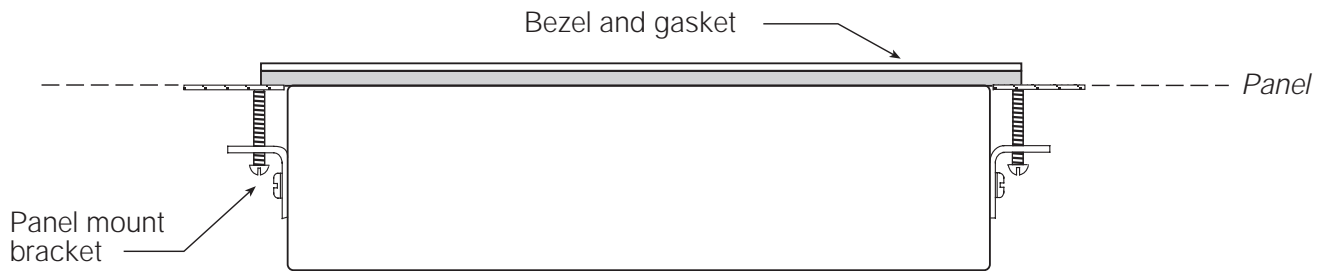

Figure 5. Panel Mounted IQ plus 350 (Top View)
12. Thread the four 10-32 x 1 3/4" round-head machine screws into the panel mount brackets. Tighten until the indicator is held securely against the panel. Figure 5 shows a top view of a completed panel mount installation.